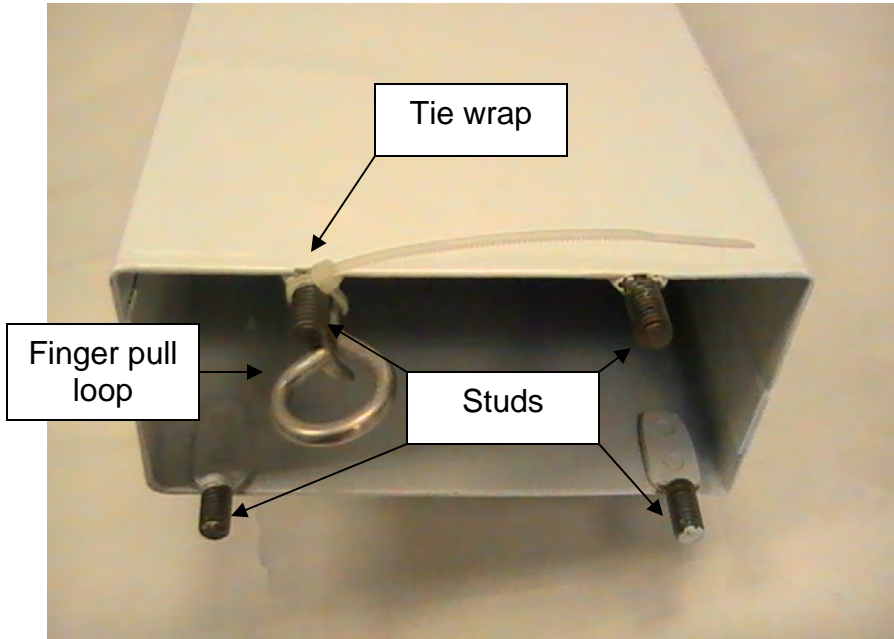

Figure 3
4. Cut the tie wrap that holds the steel rod to the pillar studs (see Figure 3).